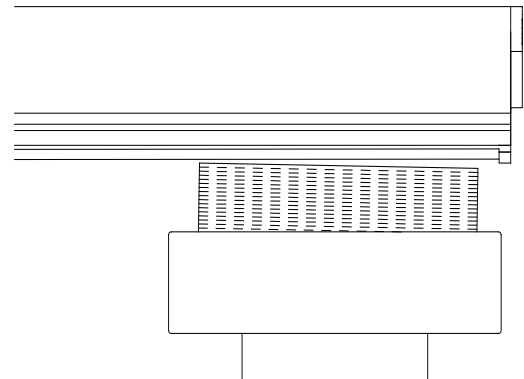

FIG. 31
1. Move the grinding head to the right end of the bedknife. Now adjust the carriage infeed handwheel until the wheel *barely* touches the bedknife at the end nib. See FIG. 31.